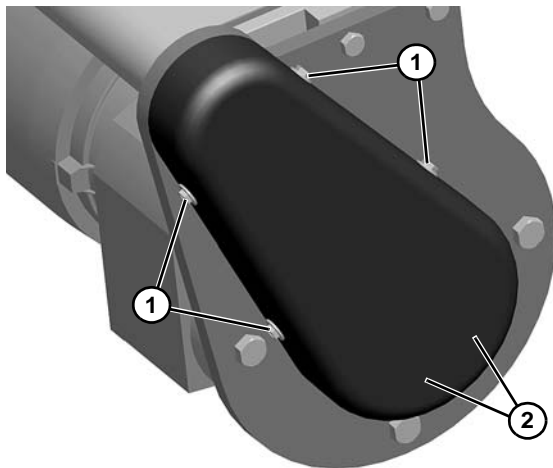

Figure 26
1. Loosen four screws (**Figure 26, item 1**) and remove timing belt covers (**Figure 26, item 2**).
4. Install timing belt covers (**Figure 26, item 2**) and tighten four screws (**Figure 26, item 1**).